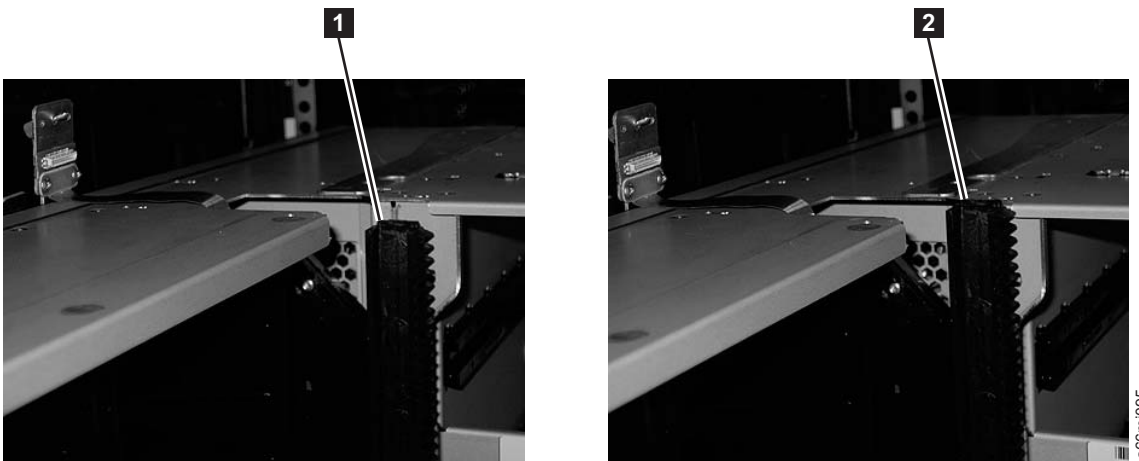

Figure 8-5. Gear racks (down and up)
1. Ensure that the front and rear gear racks are in the upper position. (see **2** in Figure 8-5.